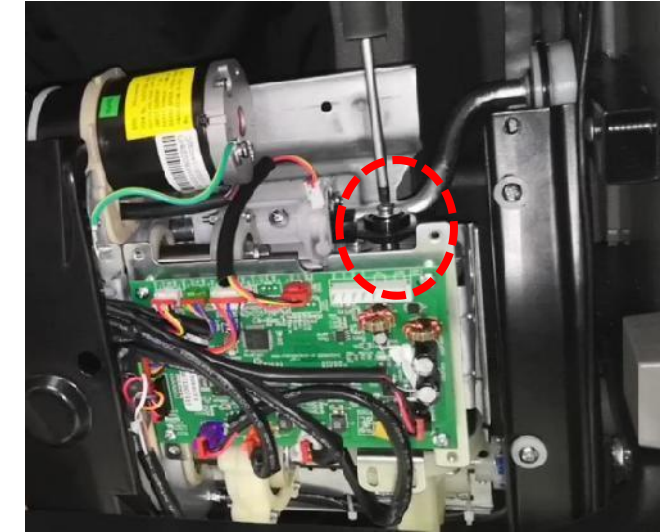

Figure 3
3. Turn the walking motor with a screwdriver, move the manipulator upward, and take out the manipulator from the notch (Figure 3)